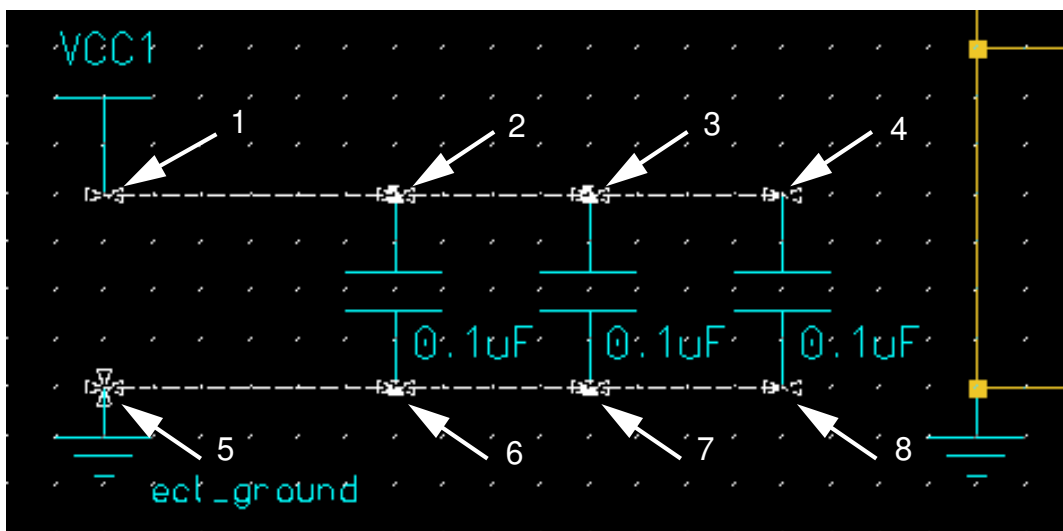

Figure 2-32. Connecting Capacitors: Method 1
Next, you connect the row of three capacitors, then the row of capacitors along the bottom of the schematic. You could add one of these wires by clicking on each capacitor in the row. An easier and faster method for long rows is to click on the first capacitor pin, double-click on the last capacitor pin in the row, then connect the selected objects. You will use both methods. Figure 2-32 shows where to place the first two wires.
6. Using Figure 2-32 as a guide, click the Select mouse button once on each of the first three points, and double-click on the fourth point.